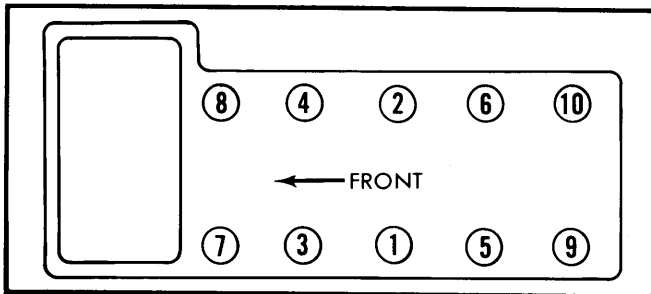

Fig. 2 Cylinder Head Tightening Sequence
2) Insert head bolts and tighten ① and ② to 14 ft. lbs. (2.0 mkg). Install and align sprockets and timing chain. Install remaining components in reverse order of removal, using new seals, gaskets and sealant where required.
3) Tighten head bolts in several steps in the sequence illustrated in Fig. 2 to final specified torque. Recheck torque after engine has been running for several minutes.